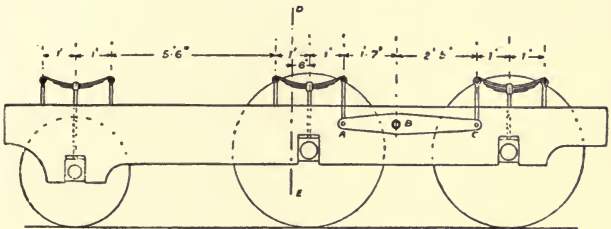

Fig. 1
1. The weight of a locomotive is supported by springs which transmit the pressures to the axles of the wheels as shewn in Fig. 1. The weight supported by the 3 wheels is 15 tons and acts along  $DE$ . Taking the dimensions from the figure, find the portion of the weight taken by each wheel.